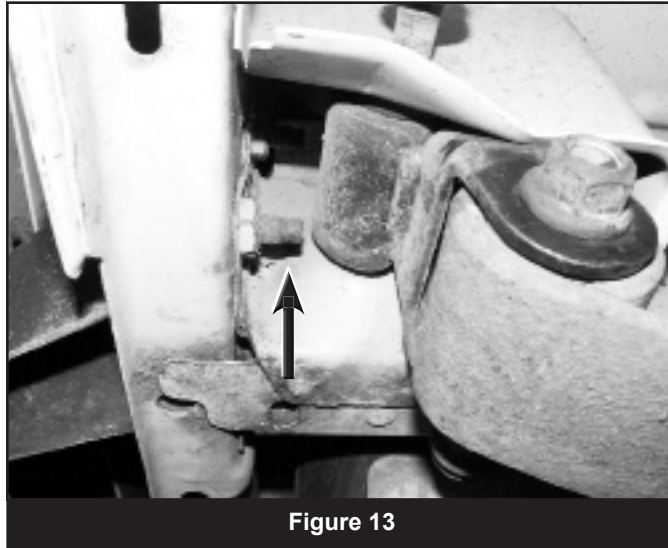

Figure 13
60. Apply a small amount of lithium based grease to bushing (3533RB) and install bushing, sleeve (52), and grease zerk into shackle (01312B).
63. Locate the bumper bolt that is protruding into the shackle pocket. This bolt will contact the new larger shackle through suspension travel. The bolt can either be cut off flush with the welded nut on the body or removed. (Fig 13)